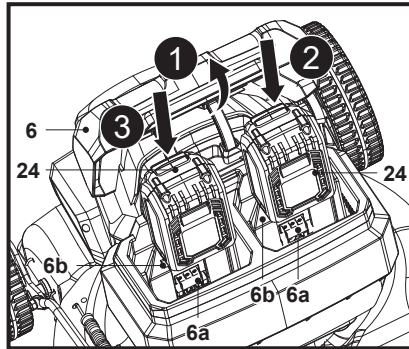

Fig. 7
1. Grip the cover handle (6c) and open the battery compartment cover (6) (Fig. 7, step 1).
2. Align the battery pack (24) with the two sliding slots (6b) and slide the battery pack (24) in to attach it (Fig. 7, step 2).
3. Make sure that the electrical contacts (6a) are fully inserted into the battery pack (24) and that it snaps in place with a click.
4. The battery pack (24) can only be installed in one direction.
5. Repeat the above steps to attach another battery pack (24) (Fig. 7, step 3).
6. Carefully close the battery compartment cover (6).